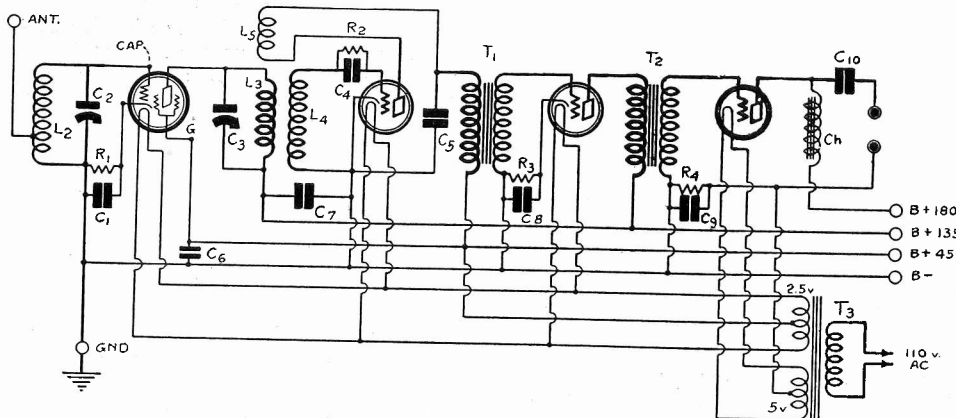

FIG. 739
(1)—Fig. 739 shows such a circuit.